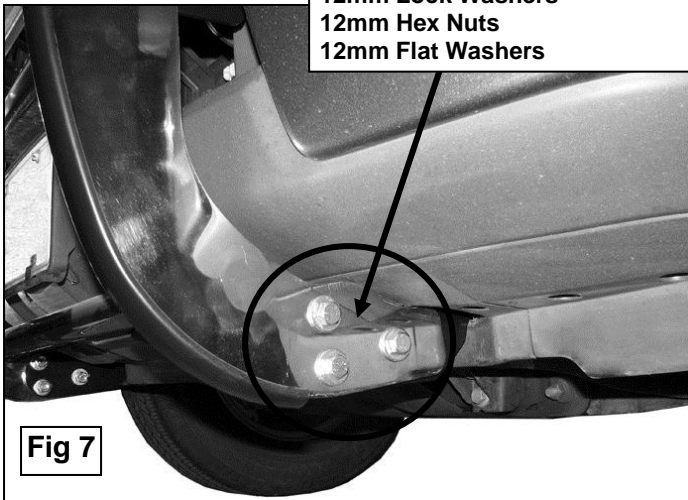

Fig 7
- With assistance, position the Grille Guard bolt tabs up to the outside of the Mounting Brackets. Attach the Grille Guard to the Mounting Brackets using the included (6) 12mm x 35mm Hex Head Bolts, (6) 12mm Lock Washers, (12) 12mm Flat Washers and (6) 12mm Hex Nuts, (Figure 7). Do not tighten at this time.